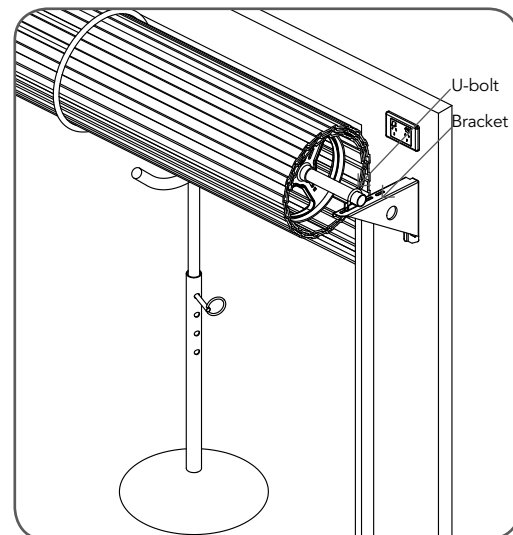

fig 08
- Remove the door bracket allowing the door to rest on the support (**Fig. 08**).